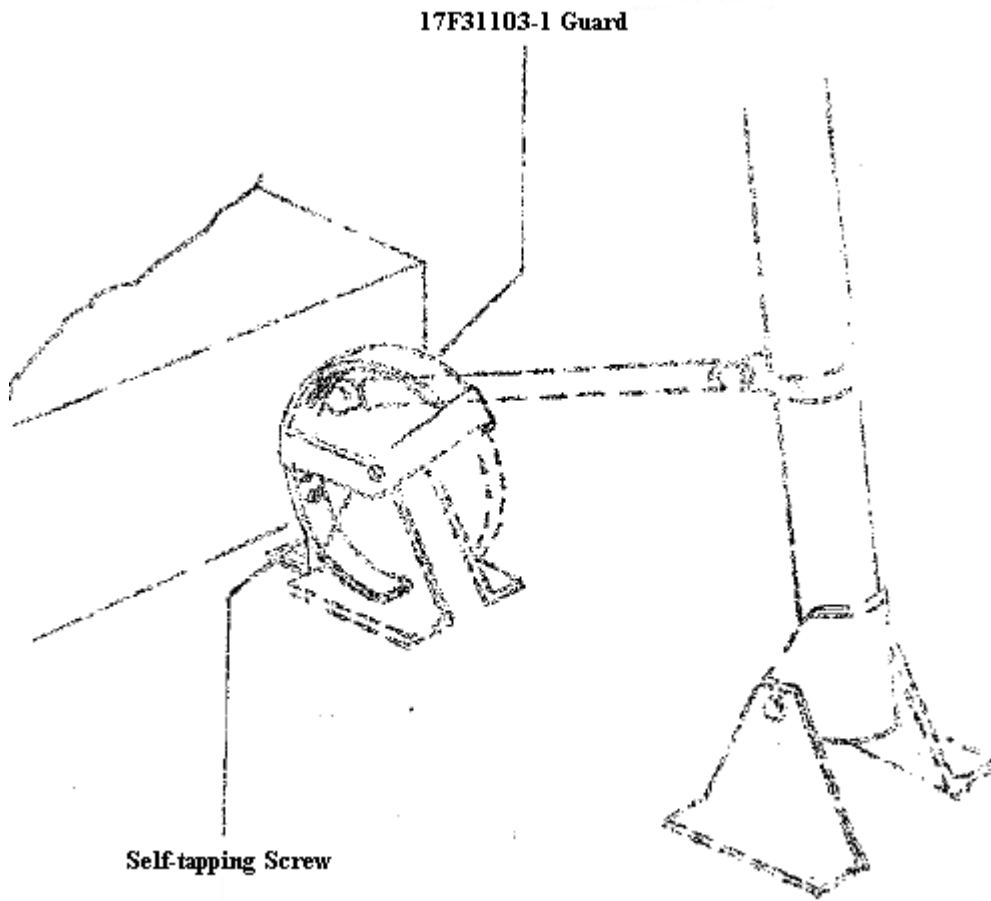

Figure 1
4. If the head of the bolt holding the pulley is on the right hand side of the pulley support, remove the nut from the bolt and slip the new guard in place on the left side of the pulley. However, if the head of the bolt holding the pulley is on the left side, this bolt must be removed using another 1/4" diameter bolt to push the bolt out and to hold pulley in place because of existing tension in elevator control cable. Place Guard 17F31103-1 in position on outside of left hand pulley support and fasten it in place using original hardware. Refer to figure 1.